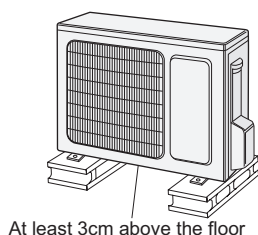

Fig. 18
- (1) Take sufficient protective measures when installing the outdoor unit.
- (2) Make sure the support can withstand at least four times the unit weight.
- (3) The outdoor unit should be installed at least 3cm above the floor in order to install drain joint. (As show in Fig. 18)
- (4) For the unit with cooling capacity of 2300W~5000W, 6 expansion screws are needed; for the unit with cooling capacity of 6000W~8000W, 8 expansion screws are needed; for the unit with cooling capacity of 10000W~16000W, 10 expansion screws are needed.